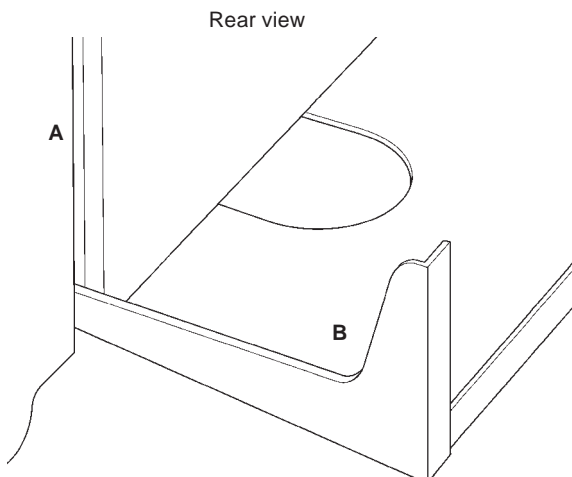

Fig. 11b
4. Position the cylinder onto the bottom bracket ensuring the sides of the bracket (B) are located into the grooves in the cylinder (A), see Fig. 11b. Carefully slide the cylinder towards the wall, making sure that the plastic pins at the bottom of the cylinder are fully located over the bottom bracket.